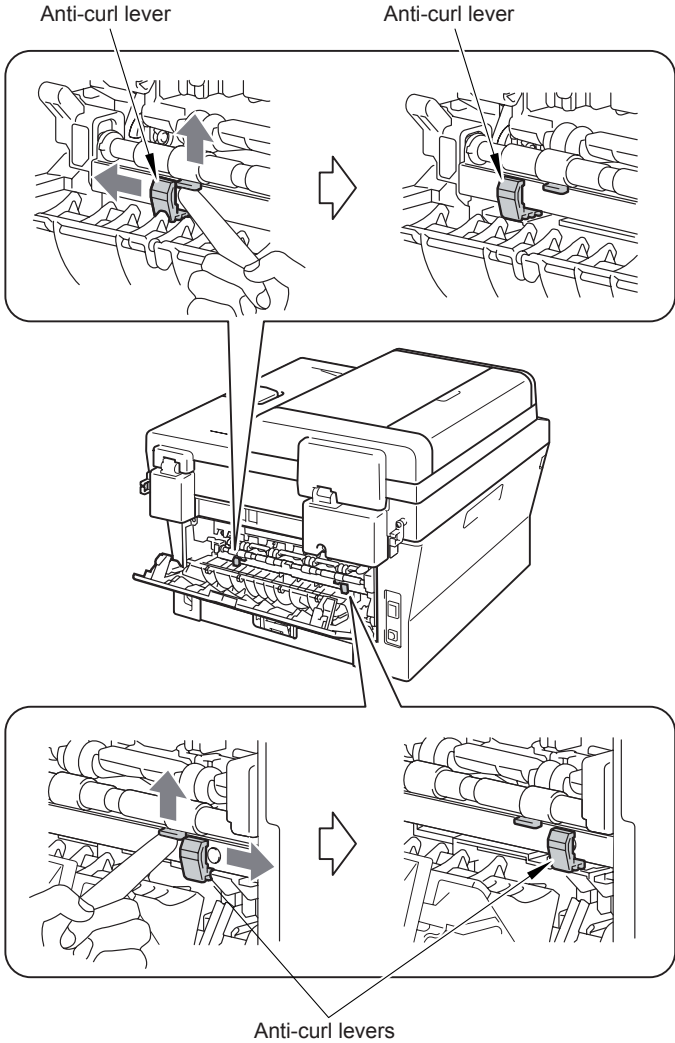

Fig. 2-9
- Turn the anti-curl levers to the direction of the black arrow. (Refer to Fig. 2-9.)